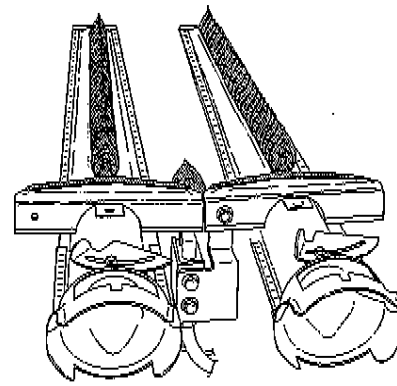

Fig. 3—Pilot/Burner Relationship
5. Reinstall main burners on manifold. See Fig. 3 for proper orientation of burners and pilot.
11. The pilot flame should be soft blue in color and it must provide good impingement on the pilot thermocouple. The flame should extend above the burner carryover port to provide proper ignition. (See Fig. 3.)